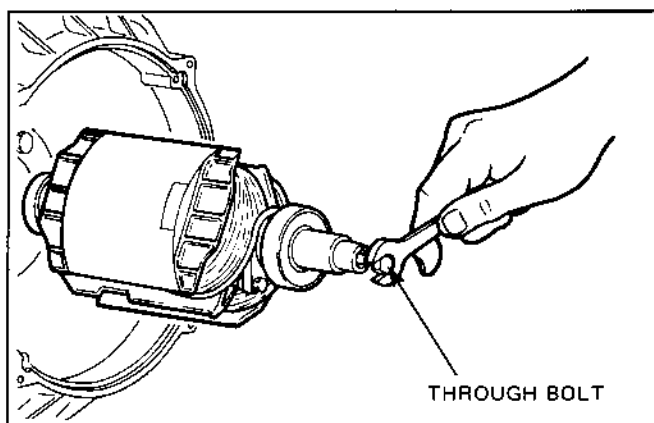

Fig. 10-26
- (1) Clean the tapered part of the driving shaft and the matching tapered part of the rotor shaft of oil and dirt with a waste cloth.
- (2) Attach the rotor to the engine shaft. Tighten the through bolt tentatively. (See Fig. 10-26.) Apply a wrench on the head of through bolt and hit it clockwise with a hammer to tighten.